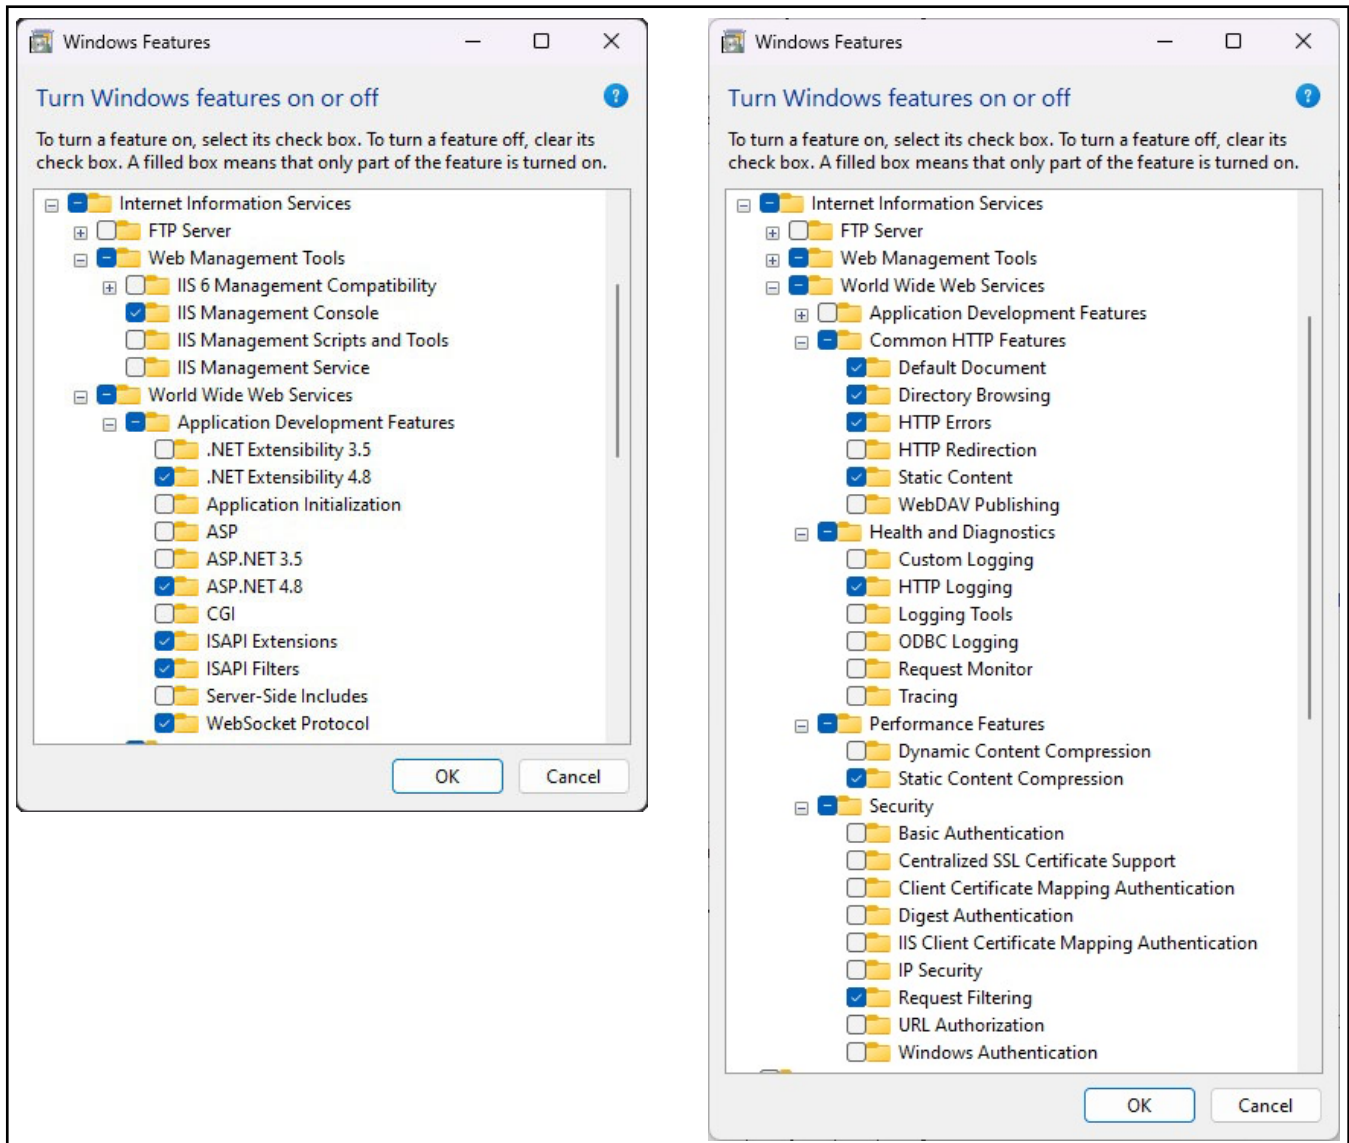

Figure 2-17. Windows Features Configured
- Windows Features window displays (see Figure 2-17 on page 16).
B.2 Expand **Internet Information Services** tree and enable check boxes as displayed in Figure 2-17.